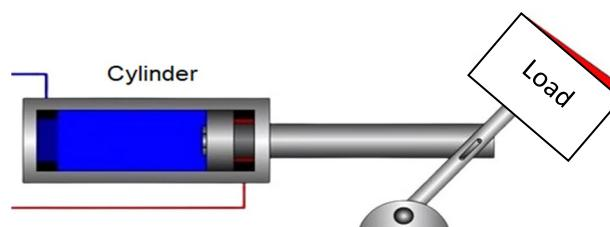

Figure 4(c) / Rajah 4(c)
- (c) Illustrate the hydraulic circuit to control the speed of push movement as shown in Figure 4(c) below.